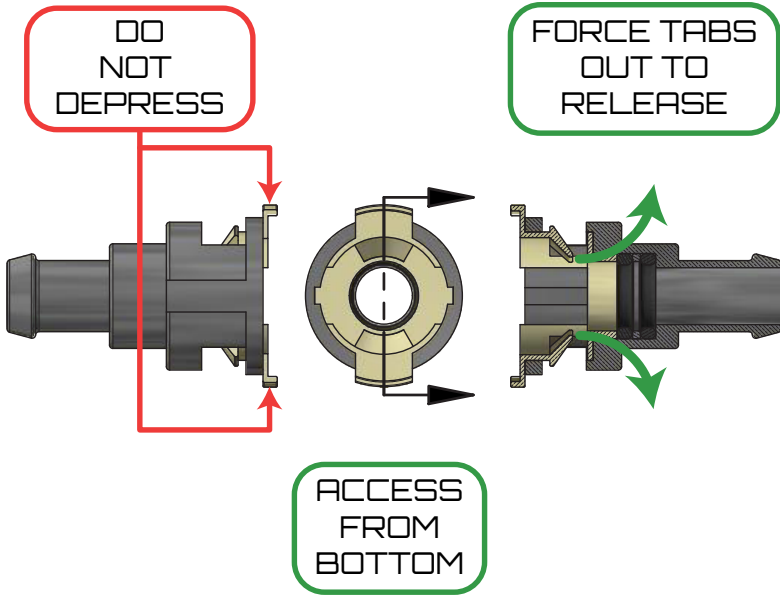

Figure 1 - Releasing the Quick Connect Fittings
5. Use Figure 1 to help understand how to release and pull-off each quick connect fitting from the factory oil cooler and lower radiator hose.